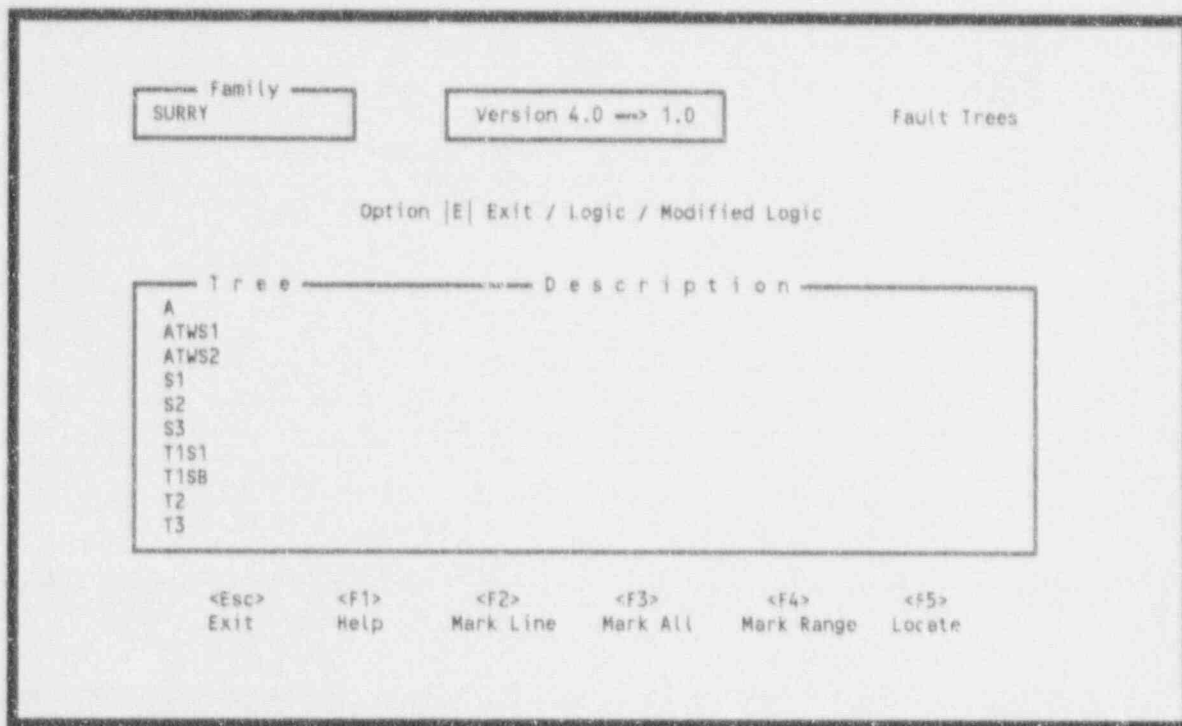

Figure 267. Logic vs modified logic values.
11.5.3.2 Fault Trees. This option allows you to output fault tree logic generated in Version 4.0 to a Version 1.0 compatible format (as ".TRE" files). To invoke this option, type a <T> in the option field, or highlight "Fault Trees" and press <Enter> or <→>. Figure 267 will be displayed listing all the fault trees in the current family. On this screen, you have three options: Exit, Logic, or Modified Logic.